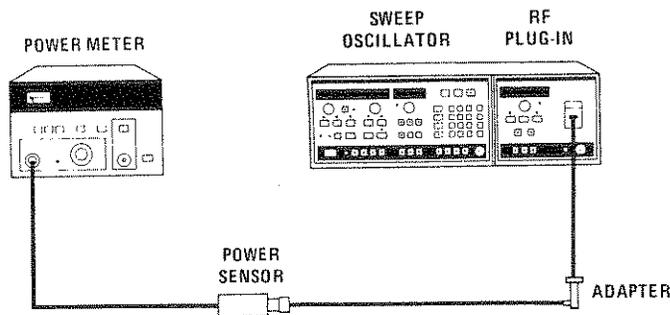

Figure 5-23. Power Calibration Test Setup
1. Connect equipment as shown in Figure 5-23. Ensure HP 8350 [**L** **MOD**] is off. Select HP 8350 [**MAN**] sweep. Manually sweep through the band and select a frequency where the power is approximately in the center of the power variation range. Select [**CW**] at that frequency.